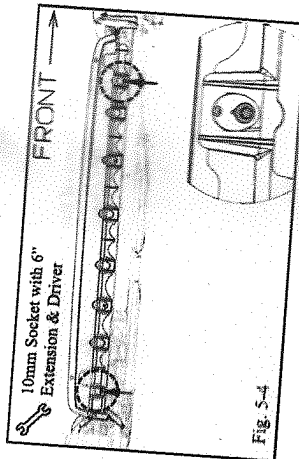

Fig. 5-4
(f) Insert and hand tighten two (2) M6 bolts ② on the bottom facing flange using a 6" extension (Fig. 5-4).
(g) Tighten and torque the bolts to 7 N·m (Fig. 5-4).